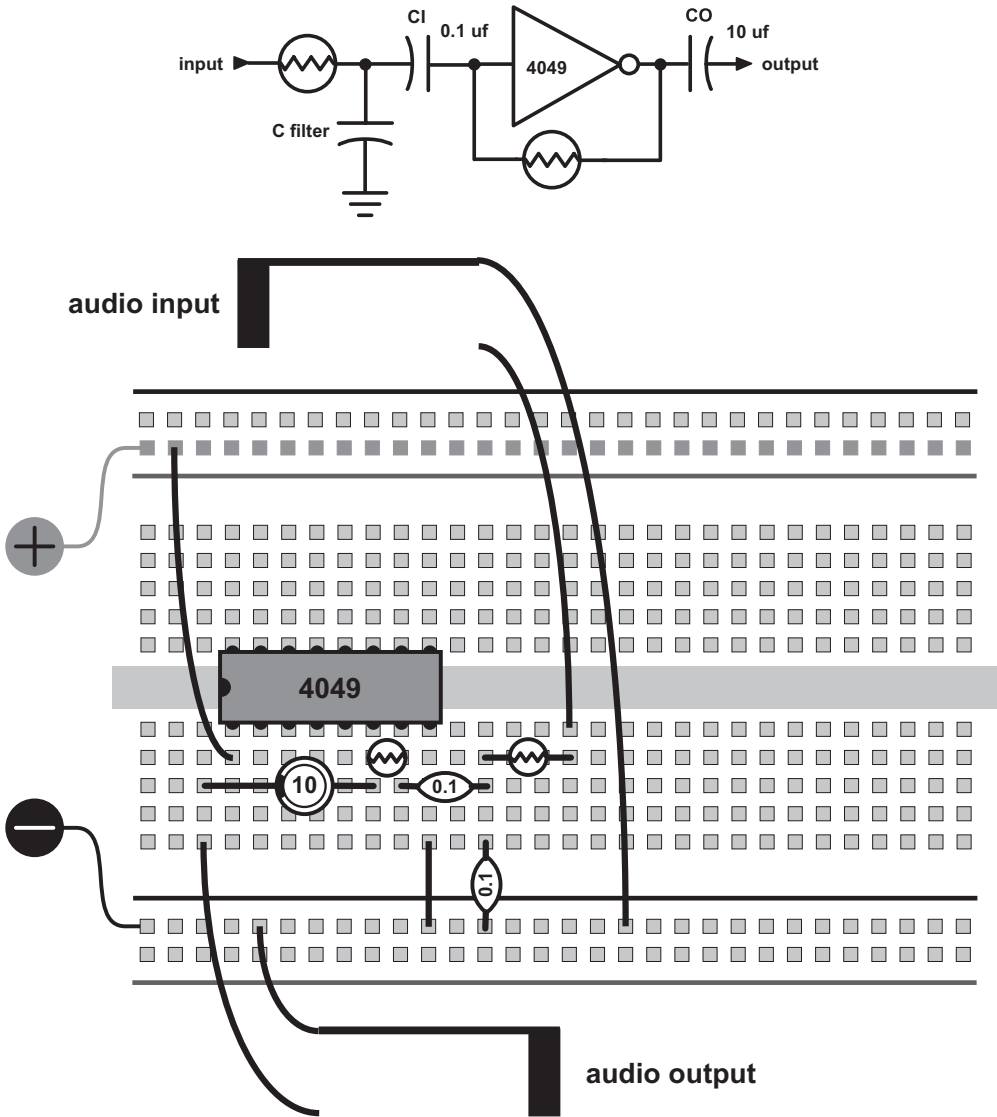

Figure 19.5 Low-pass filter.
But if you insist on continuously variable EQ, try the circuit in Figure 19.5, which is a variation on the low-pass filter we introduced in Chapter 15 (Figure 15.12). Instead of being tacked directly onto the output of an oscillator, a similar arrangement of a capacitor and two photoresistors is added to a stage of a 4049. The two photoresistors should be close together so they receive the same amount of light and “track” each other with the same resistance value, otherwise you will hear a change of loudness as the filter is swept. Experiment with different values for C filter—0.01 uf is a good place to start. CI and CO are needed, as in our basic preamp circuit, to block DC.
- Adding a stage of swept low-pass filtering as shown in Figure 19.5.